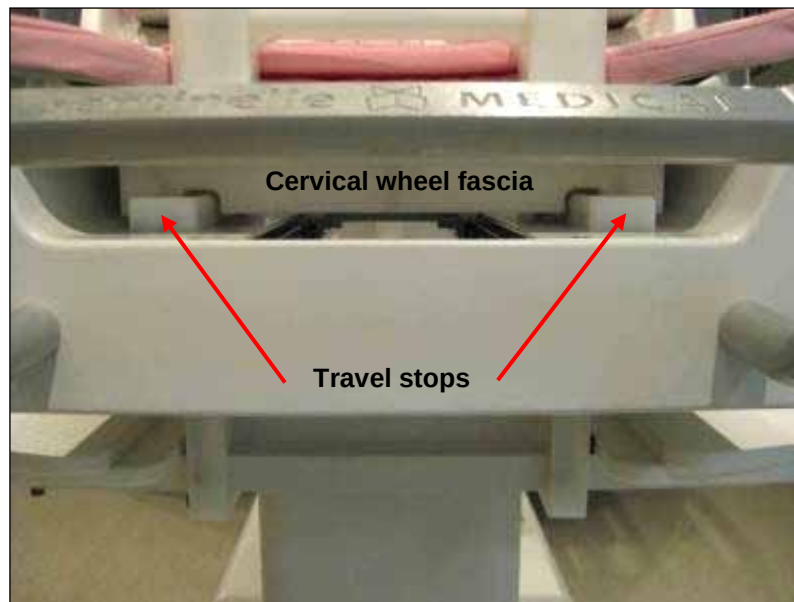

Figure 53
3. Push the UBS gently toward the foot end until the travel stop (Figure 53) on the patient left side of the UBS bottoms out against the patient support.
6. Ensure the UBS is centered left/right relative to the tabletop by looking at the travel stops position relative to the cervical wheel fascia (Figure 53).